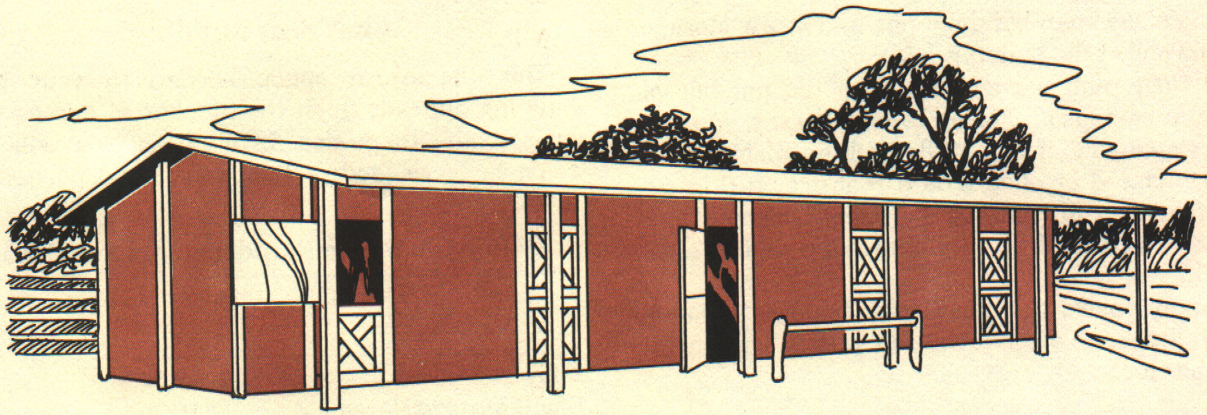

Fig. 2. Typical cold housing.
**COLD HOUSING**—building is enclosed and the inside temperature fluctuates with the outside temperature (Fig. 2). The inside temperature can be some warmer. Horses are normally kept in box stalls. Some form of ventilation is required to remove excess moisture from the building.